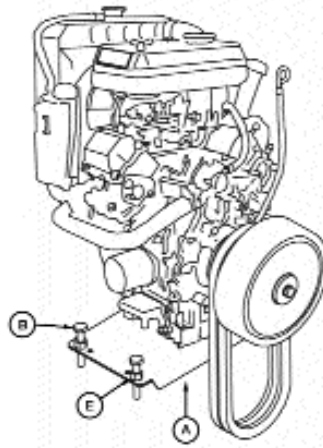

Fig. 1
1. Loosen Jam nuts(E) and Loosen engine plate adjustment bolts (B) until belt tension is relived. (refer to fig 1.)
2. Loosen set screws(C) where the u-joint couples to the drive shaft.
3. Slide u-joint(D) apart on the drive shaft to create a gap in the drive line to allow removal of belts through gap.